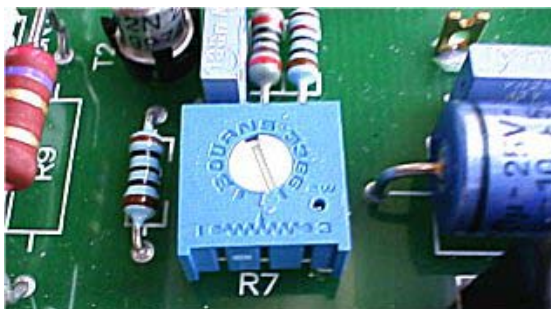

FIGURE 7.3.1b
- Step 7:** Adjust slowly on the loader unit varistor R7 until the voltage between the measure points MP2 and MP3 become 14.3 ± 0.1 VDC. See figure 7.3.1b